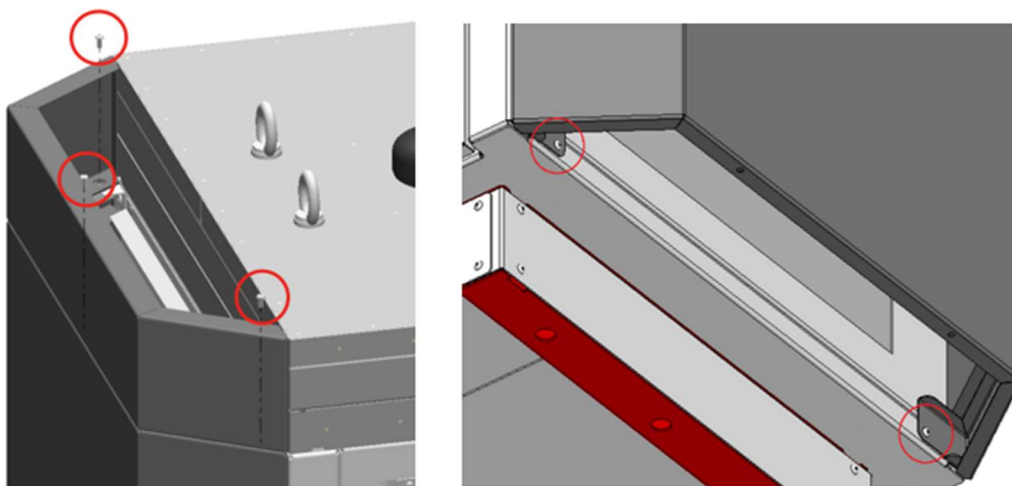

Figure 18 Dismantling the exhaust duct sheet metal
- dismantle the exhaust duct sheet (unscrew the 5 M5 Allen screws shown in *Figure 18*),